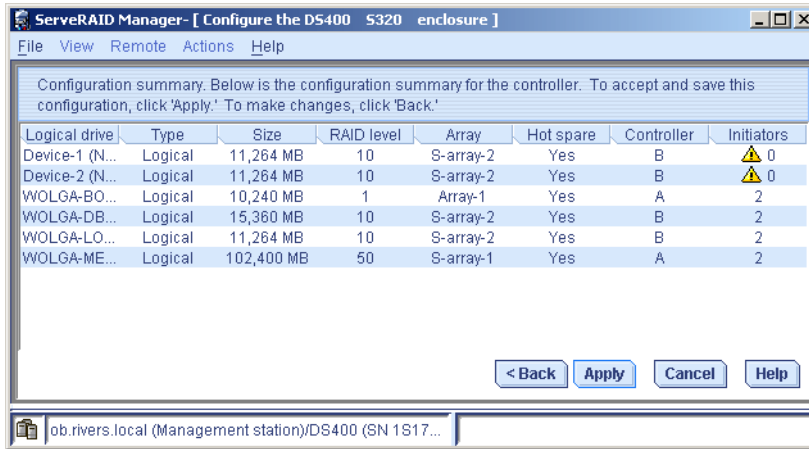

Figure 4-113 Configuration summary
29. Verify setup and click **Apply**. In case something is not as desired, use the **Back** button and correct the configuration. The two drives which are not assigned to an initiator are not accessible by a host, and a message indicates this. See Figure 4-113 on page 146. Click **Apply**.